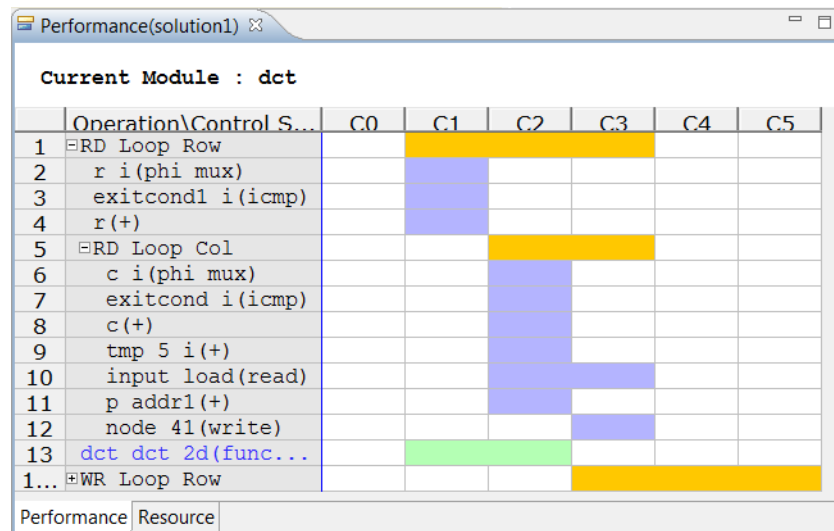

Figure 6-9: Expanded View of RD_Loop_Row
The Performance view is also shown (on the right side of Figure 6-9). This view shows how the operations in this particular block are scheduled into clock cycles.
2. Click loop **RD_Loop_Row** and sub-loop **RD_Loop_Col** to fully expand the loop hierarchy (Figure 6-9).